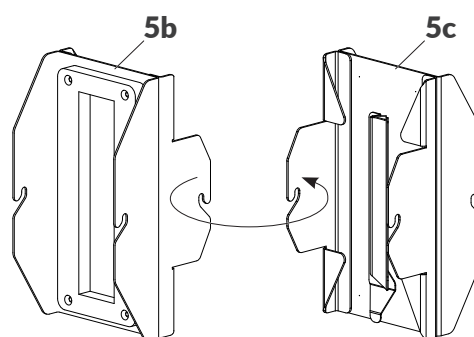

Fig. 24.
- a double-sided accessory* (see Fig. 24), which is used as sealing cover **5b** or drip molding **5c**, depending on the direction in which it is installed on the printhead.